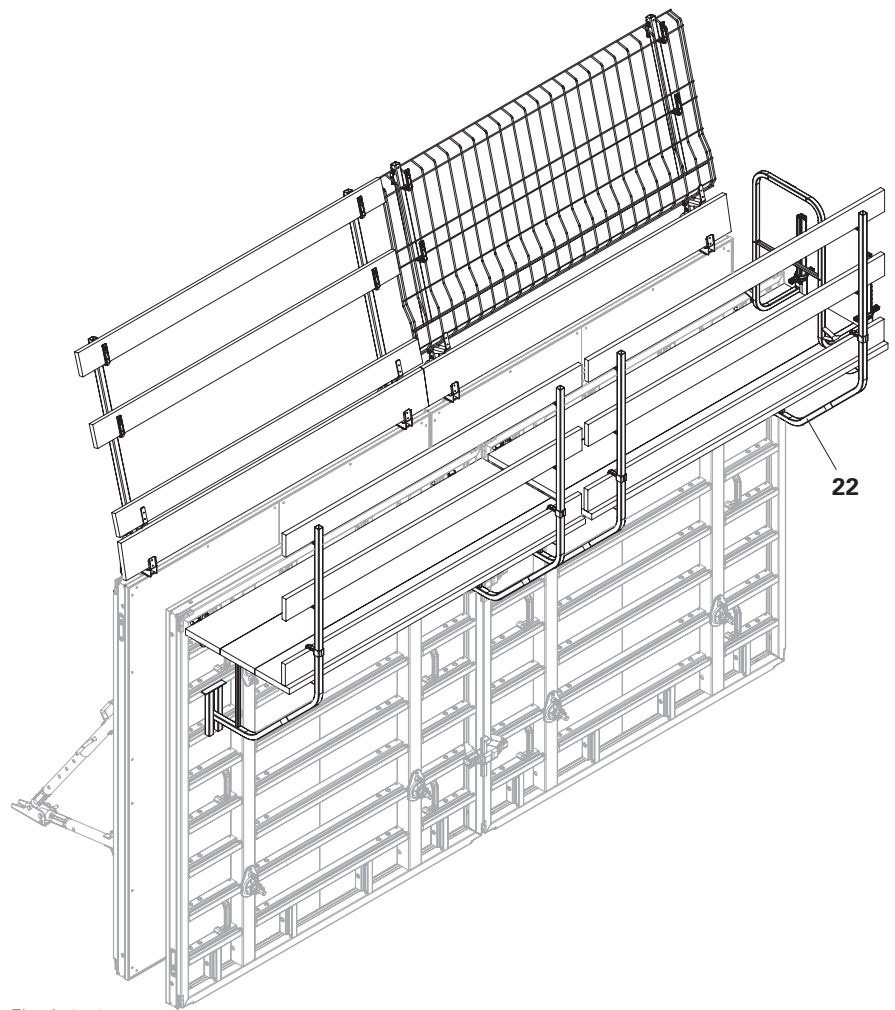

Fig. A13.13
- Shown: Height 2.70 m (Fig. A13.13)